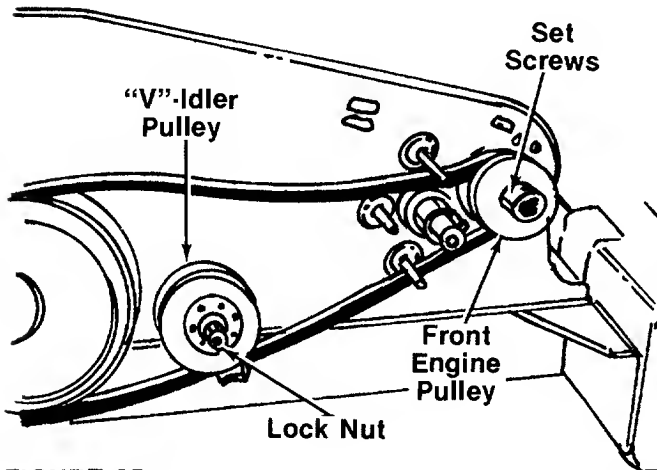

FIGURE 25.
3. Loosen the two set screws on the front engine pulley. See figure 25.
4. Remove the lock nut on the "V"-idler pulley. See figure 25.